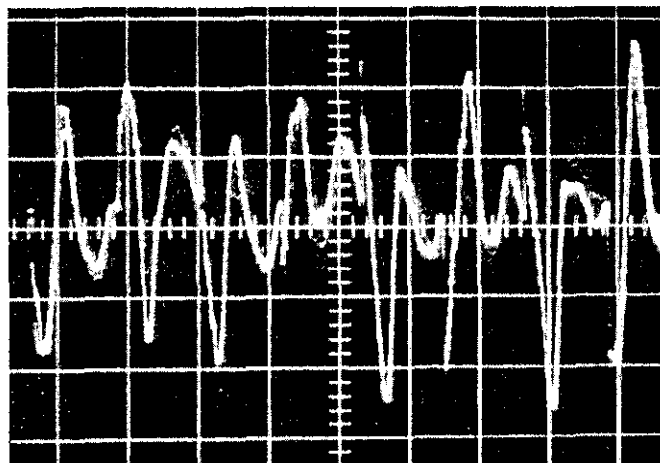

FIGURE 9. Wave Form with R1048 Adjusted. A Type 503 Oscilloscope was used; horizontal sweep was 20 msec/cm; vertical, 10 v/cm.
b. To adjust the potentiometer, set the Reference Voltage Dials to zero and short the input terminals. Attach an oscilloscope to the junction of capacitor C1016 and resistor R1035 (from pin 6 of V1002). Figure 9 shows the wave form if potentiometer R1048 is adjusted for minimum output.